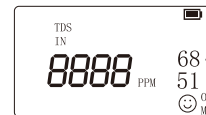

Figure 3
8. Press TDS-IN Button to display the TDS Value. (Figure 3)